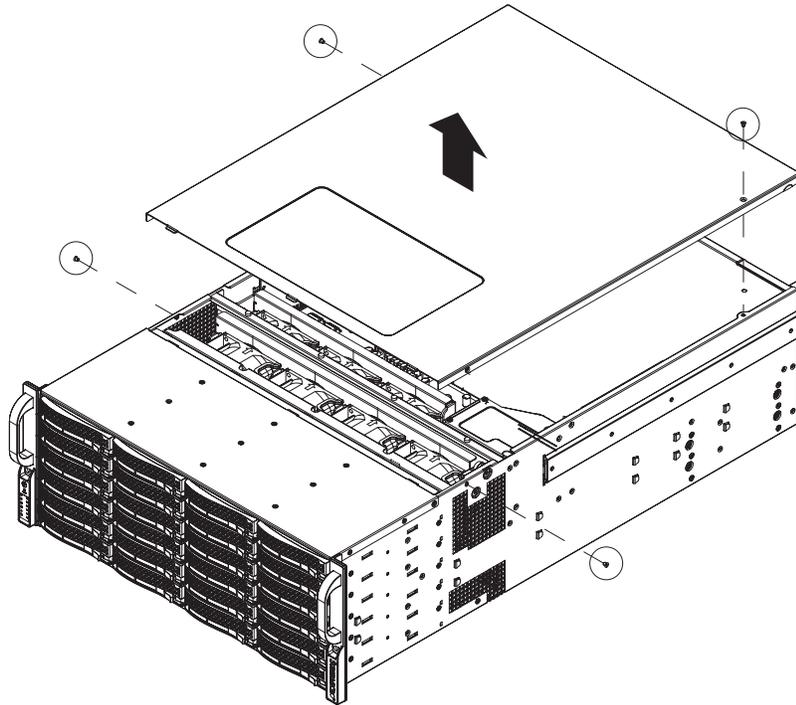

Figure 3-6 Removing the Chassis Cover
2. Remove the screws securing the cover to the chassis, as shown in Figure 3-6.